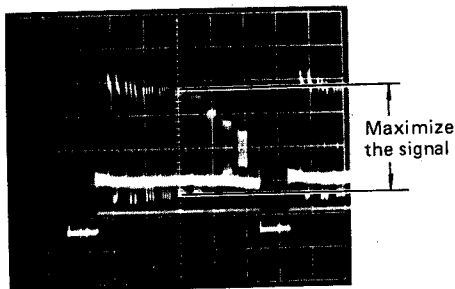
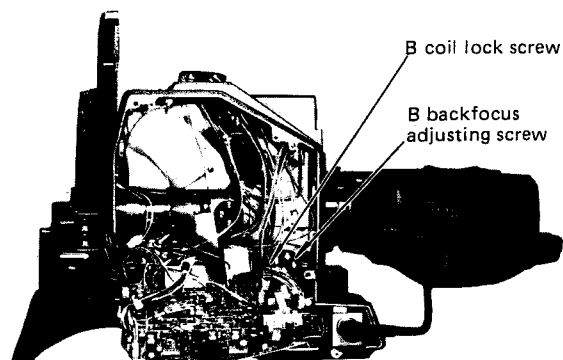

Fig. 5-4-2
Fig. 5-4-4
- o Adjust VR19 (G FOCUS) to obtain best focus at the center of picture. When the in mega chart is used for the focus adjustment, the modulation depth at the center of in mega signal becomes maximum at the best focus. (Fig. 5-4-2)
- o Adjust VR17 (R FOCUS) to obtain best focus at the center of picture. When the in mega chart is used for the focus adjustment, the modulation depth at the center of in mega signal becomes maximum at the best focus. (Fig. 5-4-2)
- o Set the SW1 (REGISTRATION SWITCH) on the Process board to the B position for observing the blue (B) signal.
- o Loosen the B coil lock screw (B LOCK) slightly. (Fig. 5-4-4)
- o Adjust the focus by turning the B backfocus adjusting screw (B BACKFOCUS). (Fig. 5-4-4)
- o Adjust VR18 (B FOCUS) to obtain best focus at the center of picture. When the mega chart is used for the focus adjustment, the modulation depth at the center of in mega signal becomes maximum at the best focus. (Fig. 5-4-2)